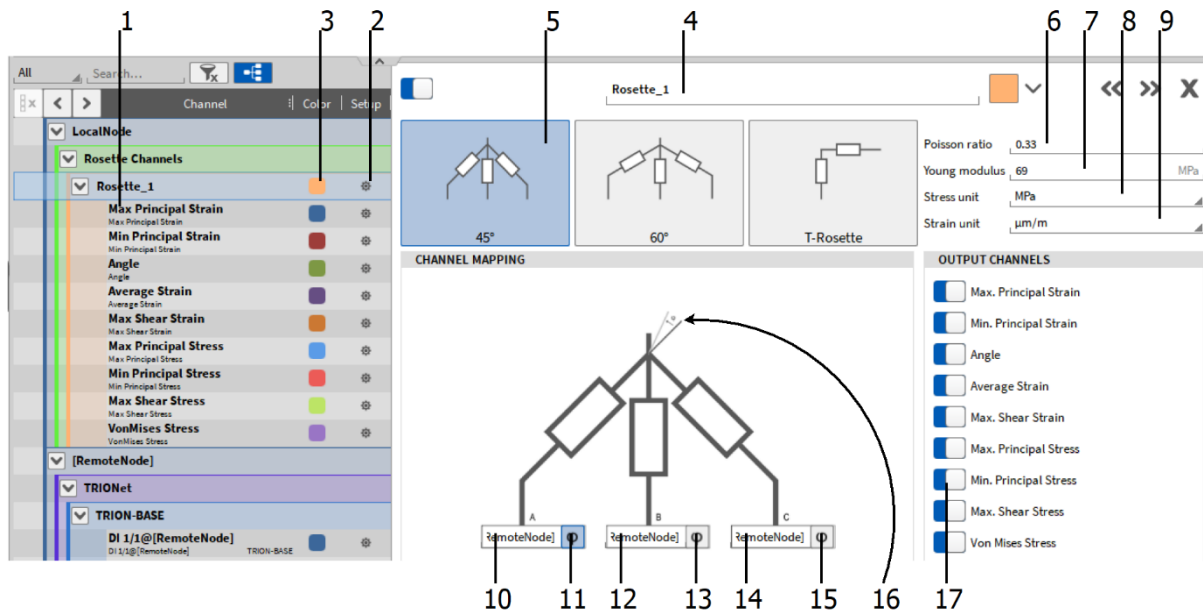
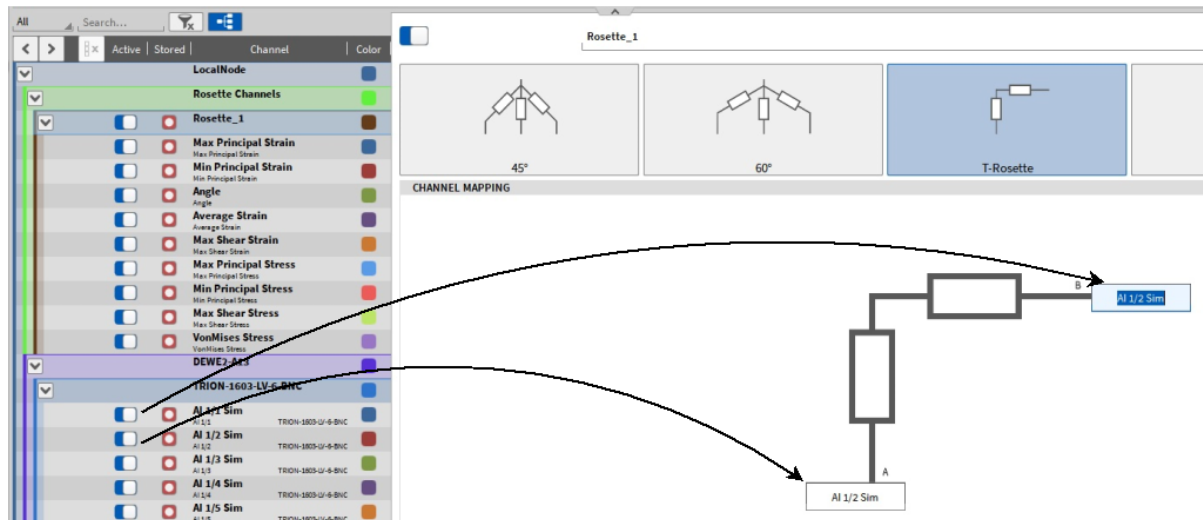

Fig. 7.112: Rosette channel setup – overview
Fig. 7.114: Channel assignment in the rosette channel setup
For creating a Rosette channel, the user must click on the *Add* button in the lower left corner (marked red in Fig. 7.48) and a window will appear (see Fig. 7.111). To create a Rosette channel, select *Rosette*. After clicking on the OK button, a Rosette main channel (*Rosette_1* in Fig. 7.112) with its Sub channels (*Max Principal strain* to *VonMises Stress* in Fig. 7.112) is added to the channel List. A click on the gear button of the main rosette channel will open the Rosette settings to perform changes afterwards (see Fig. 7.112).
The channel assignment can be edited after creating the Rosette calculation in the Channel setup of the main channel (see ⑩ in Fig. 7.112) by dragging and dropping the desired channel from the Channel List on the left-hand side to the individual input channel of the rosette calculation (see Fig. 7.114).
The sub channels (see ⑪ in Fig. 7.112) resulting from the rosette calculation have a Channel Setup that can be accessed via the Gear Button in the Channel List as well. But only the Channel scaling can be edited there.